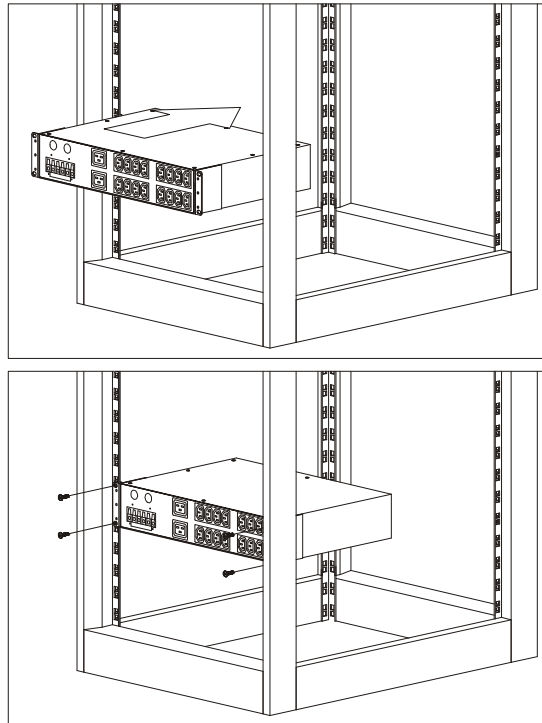

Figure 2
2. Mount the ATS into a 19" rack or into a cabinet with 19" inner design as shown on Figure 2.